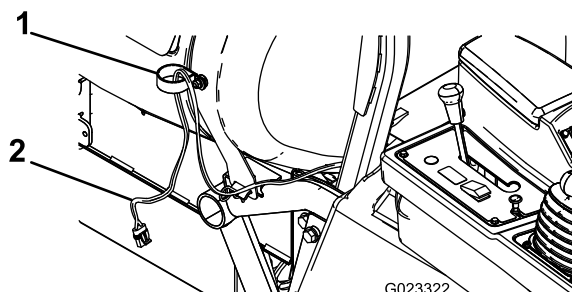

Figure 3
5. Route the hose reel end of the wiring harness through the R-clamp as shown in Figure 3.